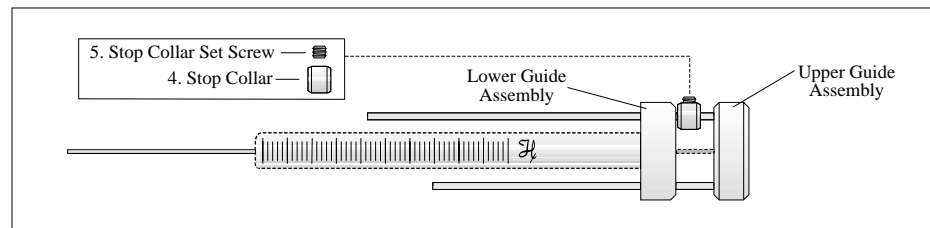

Figure 3
7. Join the upper and lower halves of the guide, being careful to not bend the plunger (Figure 3).
9. Loosen the stop collar set screw (5) and set the stop collar (4) against the lower guide assembly. Tighten the set screw. This setting of the stop collar will prevent the plunger from bottoming against the needle upon rapid injection (Figure 3).